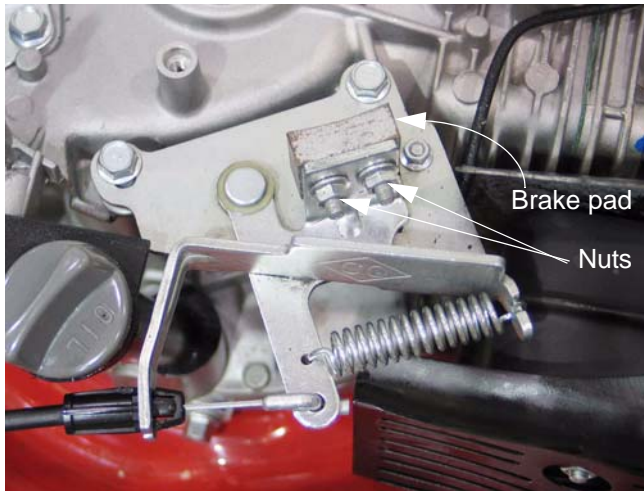

Figure 5.44
- 5.44. **To replace the brake pad**, remove the flywheel as described in the IGNITION section of this manual. See Figure 5.44.